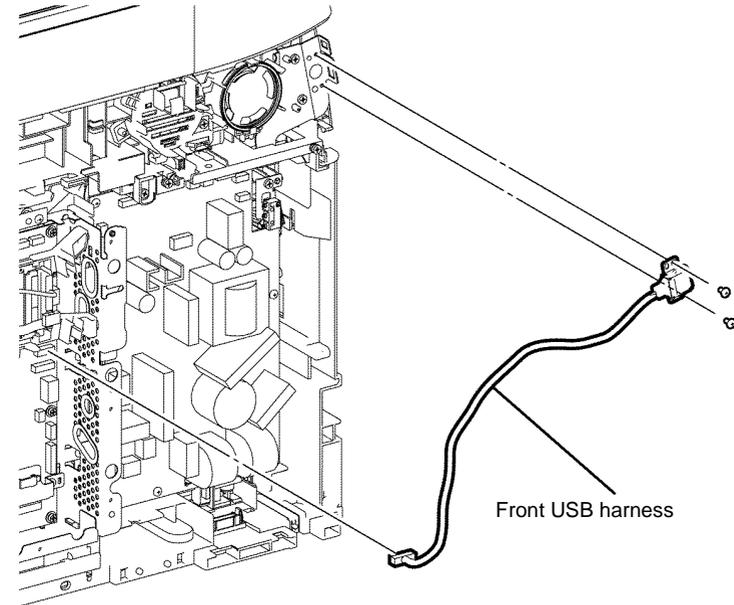

Figure 2 Front USB harness removal
10. Disconnect P/J631 from the ESS PWB, Figure 2.
11. Remove two screws (silver, M3, 6mm), then remove the front USB harness, Figure 2.